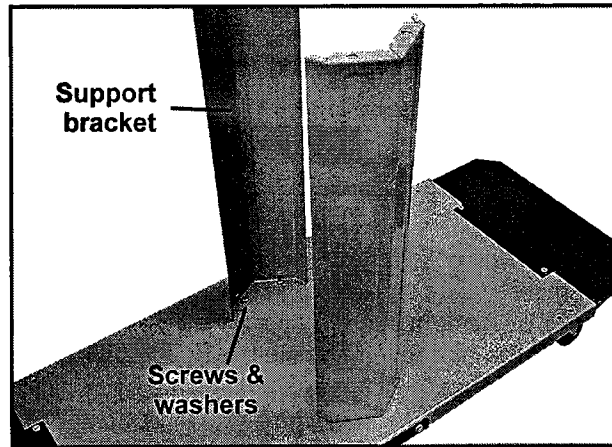

FIGURE 6
4. Turn the base upright on to its casters. Attach the two support brackets to the threaded holes in the center of the base, as shown in Figure 6. Use four screws with four flat washers. NOTE: Be careful not to strip the screws.